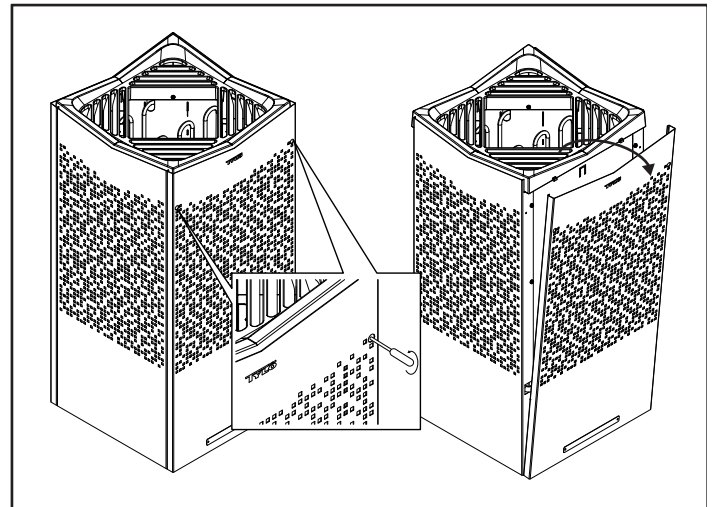

Figure 7: Unscrew the hidden screws, torx 20, take off the front
1. Lift off the front panel, figure 7.